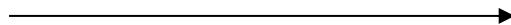

Figure 2 Scanner holding point
2. Each person must take hold of the scanner with one hand on the upper support point. Next, tilt the scanner slightly to the rear until you can grip underneath the scanner at the front with your other hand. (Figures 2 and 3)